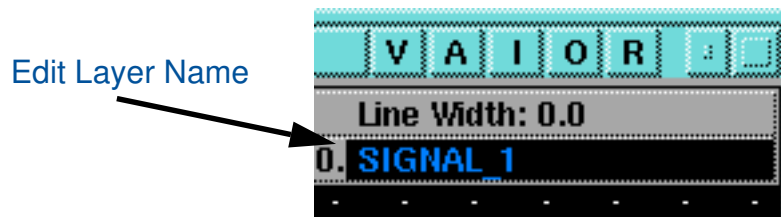

Figure 1-14. Locating the Edit Layer Name
3. Check the upper-right corner of the Edit window, as shown in Figure 1-14, and verify that the current edit layer is **SIGNAL_1**.